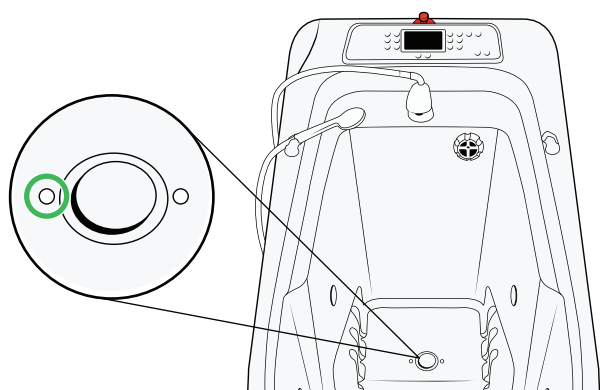

Figure 120
- Temperature sensor at the bathtub bottom. See Figure 120.